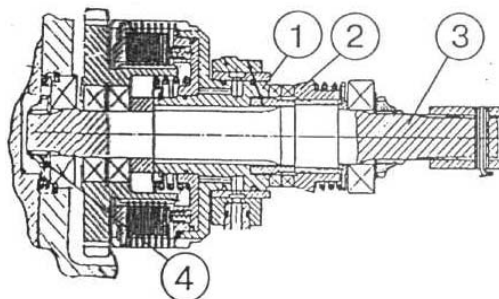

Figure 5.15
c) while mounting shaft (3) (figure 5.15) see that its splines were aligned with splines of half-clutch (2) and drum (1).